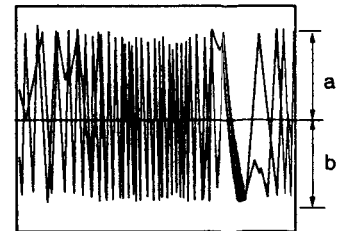

Fig. 3 Maximize the TRKG error a=b
7. Slowly turn the grating counterclockwise from the on track position until the waveform amplitude becomes maximum. (Fig. 3)
2. Adjust VR602 so that the positive and negative amplitude of the TRKG error waveform become equal. (Fig. 3)